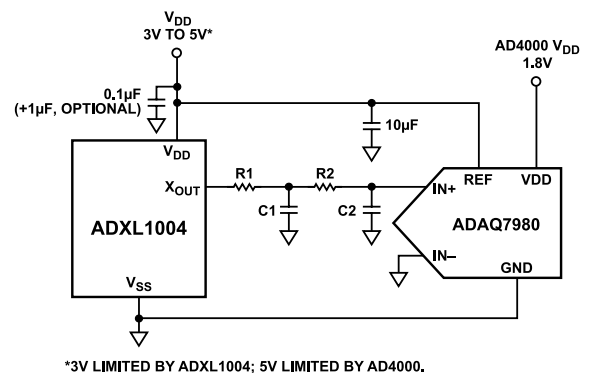

Figure 23. Application Circuit for the ADXL1004
See Figure 23 for an example of the interface, including components when measuring mechanical vibration from 0 kHz to 5 kHz. For a 5 kHz pass band, a single-pole resistor capacitor (RC) filter is acceptable; however, in some applications, use of a more aggressive filter and lower sample ADC sample rate is possible. The following components are recommended to form a 5 kHz low-pass RC filter at the output of the ADXL1004 when interfacing to an ADC, such as the ADAQ7980: $R1 = 91\text{ k}\Omega$, $C1 = 330\text{ pF}$, $R2 = 0\ \Omega$, and $C2 = \text{not required}$. A minimum ADC sample rate of 16 kHz is recommended to avoid aliasing. When using sampling rates less than the resonance frequency (typically 45 kHz), be aware and account for the effective gain at the output of the sensor due to the resonance to ensure out of band signals are properly attenuated and do not alias in band.
See Figure 23 for an example of the interface, including components when measuring mechanical vibration from 0 kHz to 10 kHz. The following components are recommended to form a two-pole RC filter at the output of the ADXL1004: $R1 = 500\ \Omega$, $C1 = 10,000\text{ pF}$, $R2 = 1\text{ k}\Omega$, and $C2 = 10,000\text{ pF}$. A minimum ADC sample rate of 200 kHz is recommended to avoid aliasing.